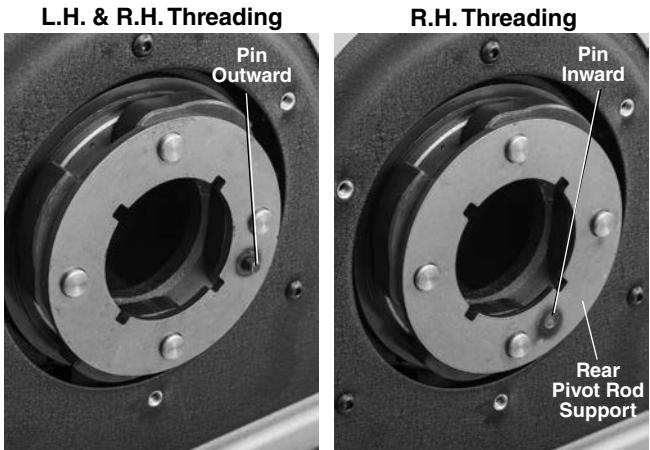

Figure 25B – Rear Pivot Rod Support - Pin Placement
- c. Remove E-clips and rear pivot rod support (*Figure 25B*).
- d. Position the rear pivot rod support so that pin faces outward and reinstall (*Figure 25B*).
- g. To convert back to Right Hand threading only, turn over the rear pivot rod support so that pin faces inward and reinstall (*Figure 25B*).